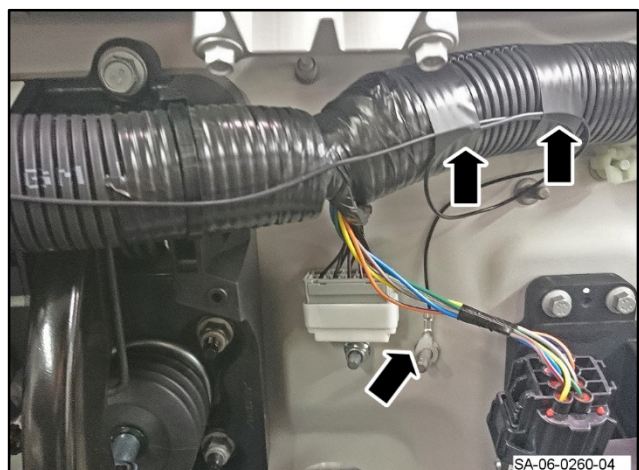

Figure 4
3. Install the ring/eyelet terminal of the link harness black wire to the ground stud on the bulkhead. Align the terminal's crimp barrel vertically above the stud (refer to Figure 4). Make a loop of the link harness black wire along the cabin harness.
5. Use insulating tape to attach the loop of black wire to the cabin harness (refer to Figure 4).